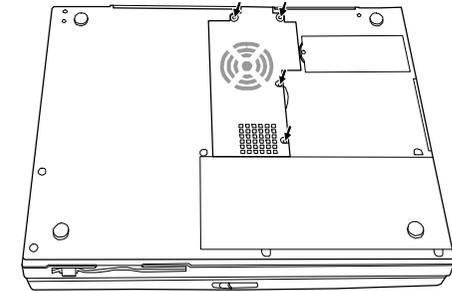

Figure 5-7. Removing the CPU Compartment Cover
2. Open the CPU compartment cover by removing four screws and lifting up the cover from one side. (Refer to Figure 5-7)
4. Replace the CPU compartment cover and secure with four screws. (Refer to Figure 5-7 earlier.)